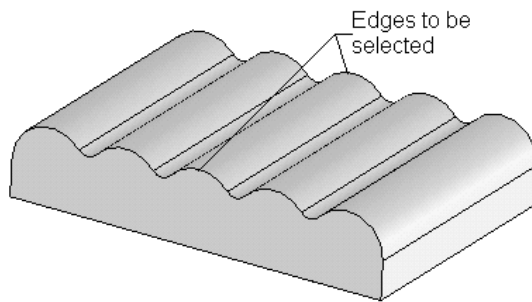

Figure 9-43 Edges to be selected
- Add the fillets to the base feature, refer to Figures 9-43 and 9-44.
1. Invoke the **Fillet PropertyManager**, rotate the model, and select the edges of the base feature, as shown in Figure 9-43.